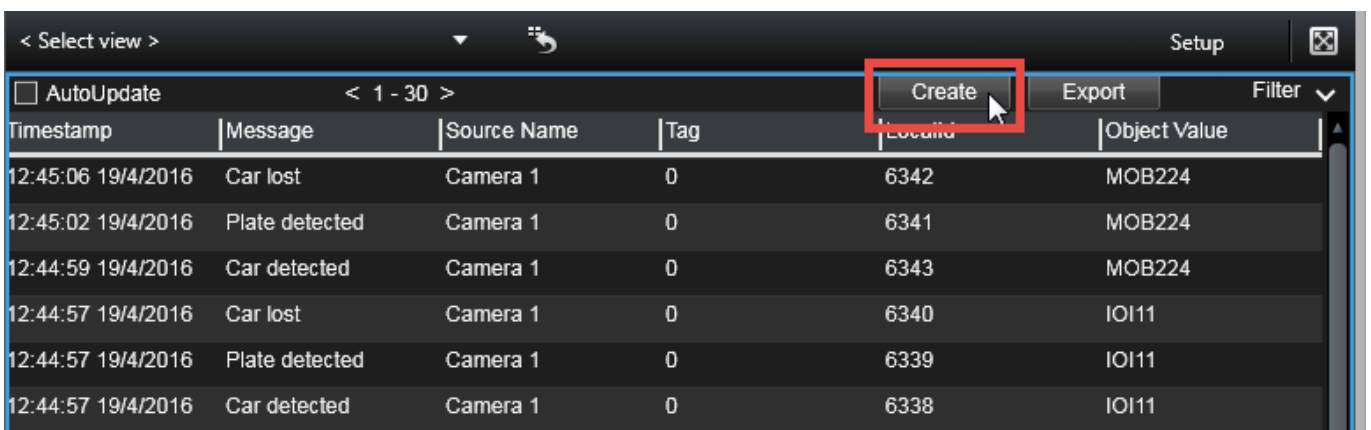

Figure 9: Opening the window to add a license plate
1. Click **Create** button at the top of recognition view (Fig. 9).